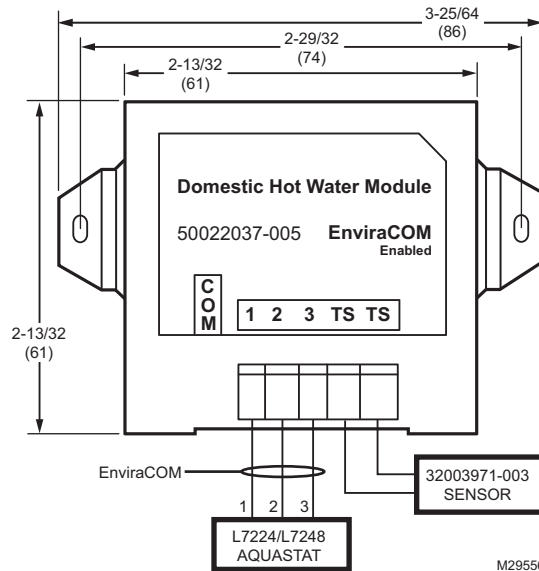

Fig. 2. 50022037-005 Domestic Hot Water (DHW) Module wiring diagram.
1. Wire the EnviraCOM bus terminals 1,2, and 3 on the DHW Module to the 1,2, and 3 terminals on the EnviraCOM™ enabled Aquastat, thermostat (if available), or anywhere on the bus where access is available and convenient. (See Fig. 2).